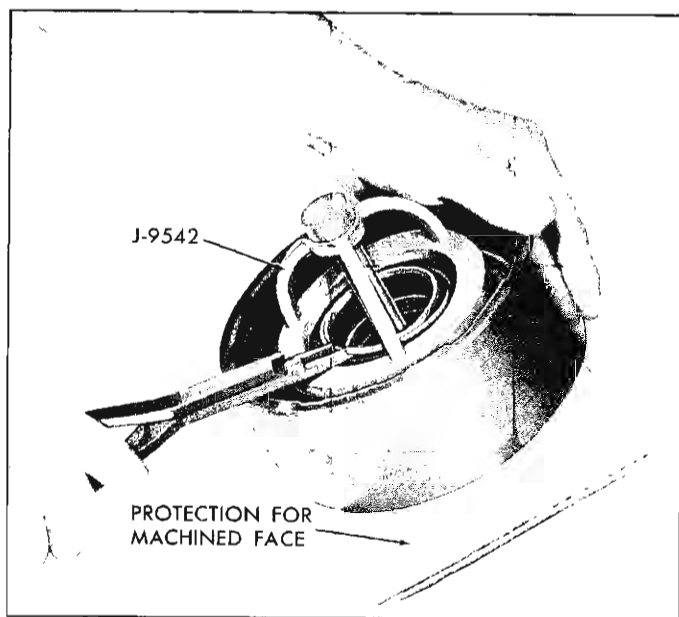

Fig. 25—Removing Clutch Spring Retainer Snap Ring
4. Remove the spring retainer using J-9542 as shown in Figure 25, or if using an arbor press, use J-5133 and J-7782 adapter ring. Compress the springs far enough to allow removal of the retainer snap ring; then, releasing pressure on the springs, remove the retainer and the 24 springs.